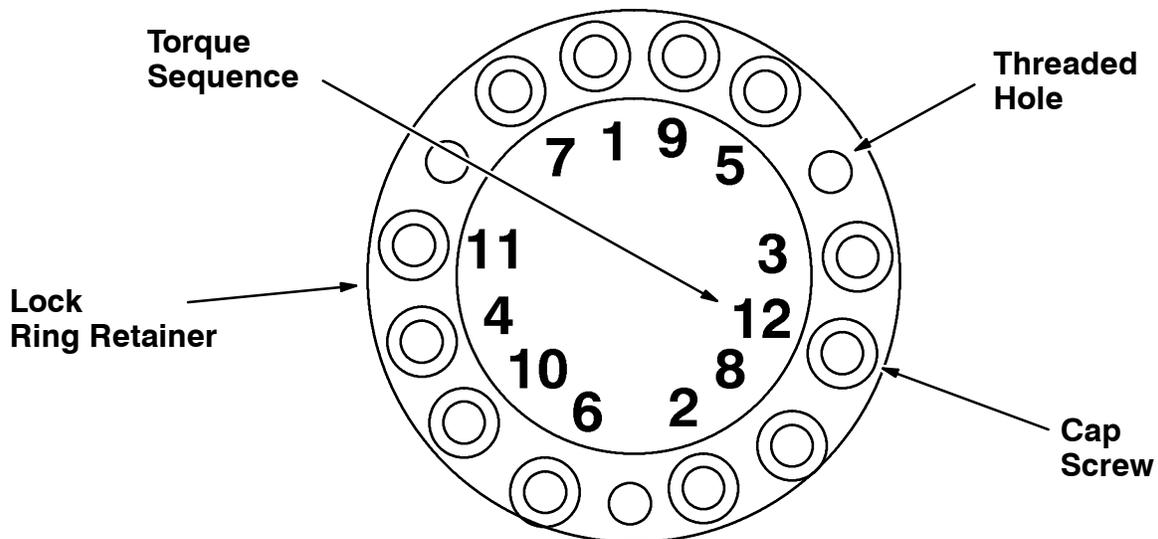

FIG. 5 - Cap Screw Tightening Sequence On Lock Ring Retainer
12. Remove the lock ring retainer by first loosening the retainer's 12 cap screws. Thread three of the cap screws into the three open threaded holes. This will drive the ring retainer off the shaft. After the ring is off the shaft, return the three cap screws to their original threaded holes. (Refer to FIG. 5)
7. Slide the lock ring retainer into place on the pivot shaft. This will center bottom plate to pivot shaft. Do not tighten at this time. (Refer to FIG. 5 and 6)
8. Hold the lock ring retainer in place while tightening the five M20 hex screws to 300 - 390 Nm (220 - 290 ft lb) on the bottom pivot plate. (Refer to FIG. 5 and 6)
9. Alternately tighten the cap screws. Torque cap screws to 14 Nm (10 ft lb), then to 28 Nm (20 ft lb), and then to 40 Nm (30 ft lb) in the pattern shown. (Refer to FIG. 5 and 6)